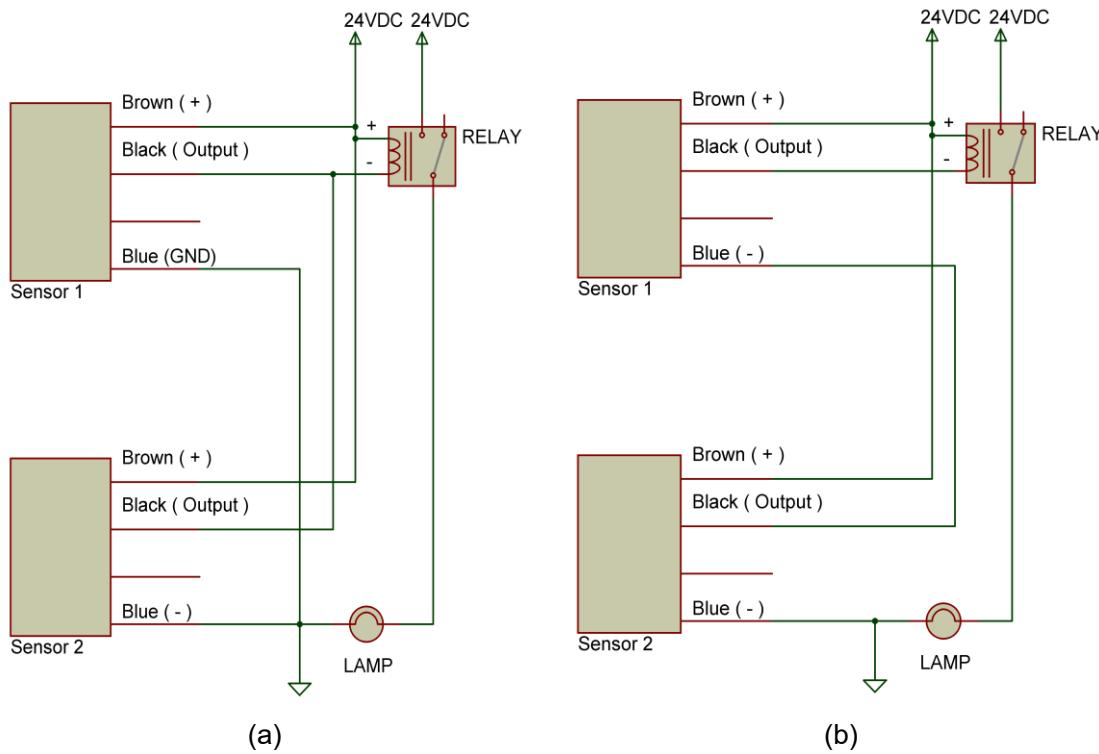

Figure 20: Circuit diagrams of combining NPN sensors (a) “ORing” and (b) “ANDing”
4. Repeat steps 1-3 using each of the circuit diagrams shown in Figures 20 (a) and (b) accordingly.